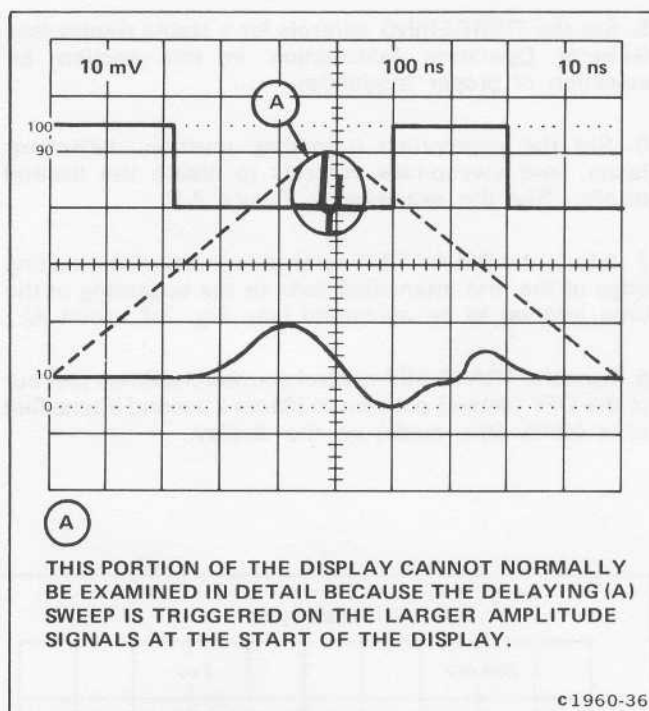

Figure 2-9. Magnifying a selected segment of the delaying (A) sweep in the delay-time mode with mainframe alternate or chopped horizontal operation.
5. To magnify a selected segment of the delaying (A) sweep waveform and determine apparent magnification in the delay-time mode:
- Set the appropriate triggering, position, deflection-factor, and sweep-rate controls for the desired dual-trace display. See the example in Figure 2-9.
c. Turn the DELAY TIME control to position the intensified zone to the portion of the delaying (A) sweep waveform to be magnified.
d. Set the delayed (B) sweep unit sweep rate to select the desired duration of the magnified display as indicated by the length of the intensified zone.
e. Observe the magnified display on the delayed (B) sweep. See Figure 2-9.
f. Determine apparent magnification by dividing the 7B15 TIME/DIV setting by the delayed (B) sweep unit sweep-rate setting.
Example: The apparent magnification of the delayed (B) sweep shown in Figure 2-9 with a 7B15 TIME/DIV setting of .1 millisecond and a delayed (B) sweep unit sweep-rate setting of 1 microsecond is: